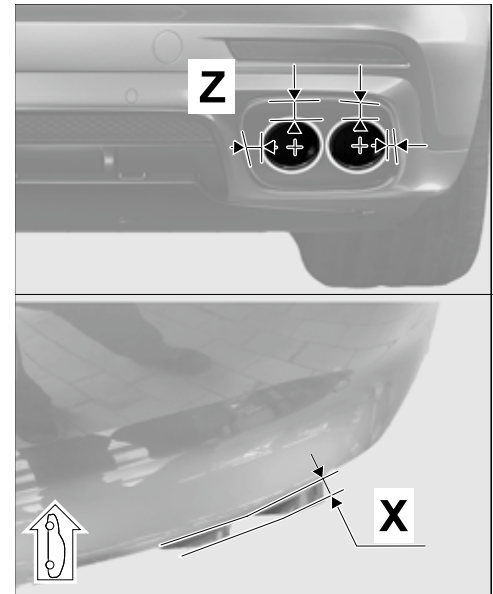

Figure 26
- 3.5.2 Check that the gap = "dimension Z" between the new sport tailpipes and exhaust system cover (rear apron – left and right side of vehicle ⇒ *Figure 26 -Z-*) is symmetrically constant.
- 3.5.3 Check that the sport tailpipes project equally = "dimension X" with respect to the rear apron (left and right side of vehicle ⇒ *Figure 26 -X-*). Re-align sport tailpipes if necessary.